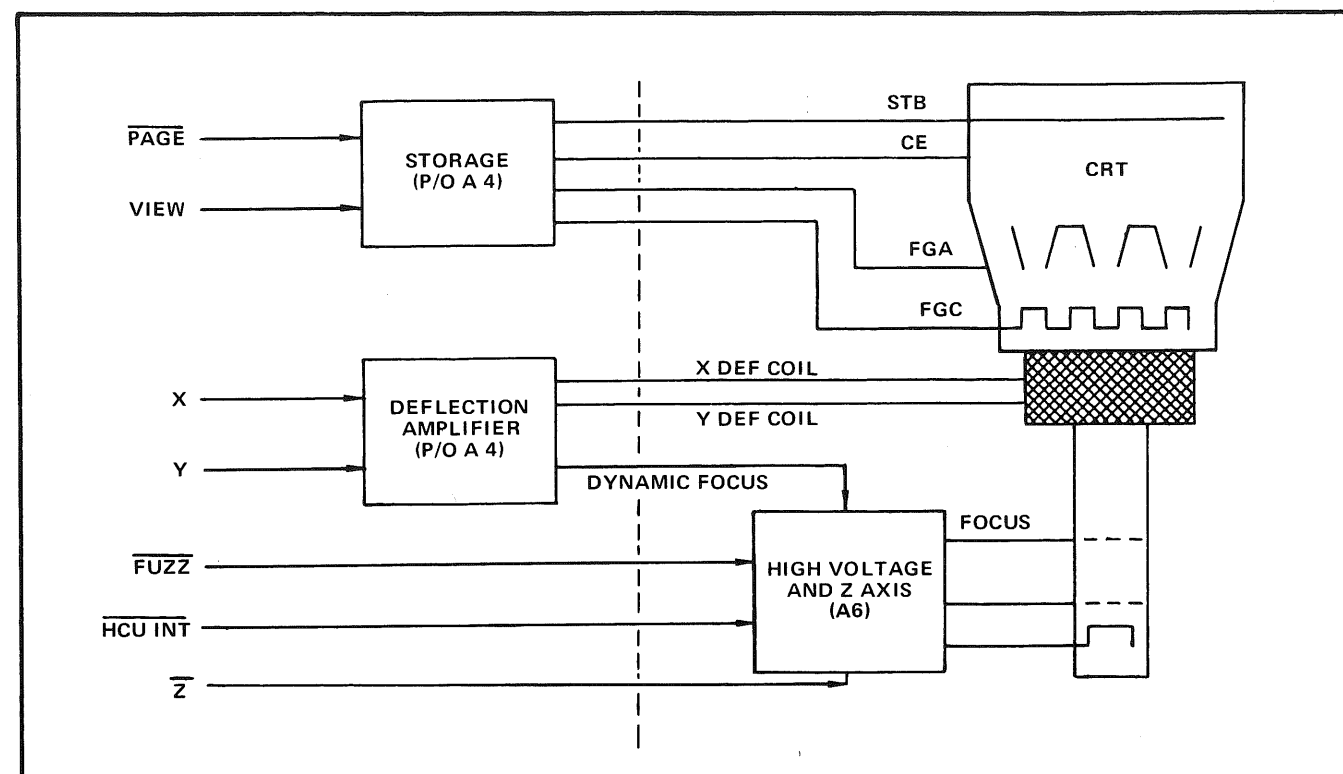

Fig. 6-21. Display Unit Block Diagram.
A block diagram of the Display Unit (exclusive of keyboard and Hard Copy consideration) is shown in Fig. 6-21. The writing portion of the Display Unit consists of a High Voltage and Z Axis circuit, a Deflection Amplifier circuit, X and Y Deflection Coils, and the writing components of the CRT — namely the Cathode, Control Grid, and Focus Anode. The storage section consists of the Storage circuitry and the storage components of the CRT — the Flood Gun Cathode (FGC), the Collimation Electrode (CE), the Flood Gun Anode (FGA), and the Storage Backplate (STB). The writing portion of the Display Unit controls beam positioning and writing, while the storage portion controls and maintains the intensity of stored information.